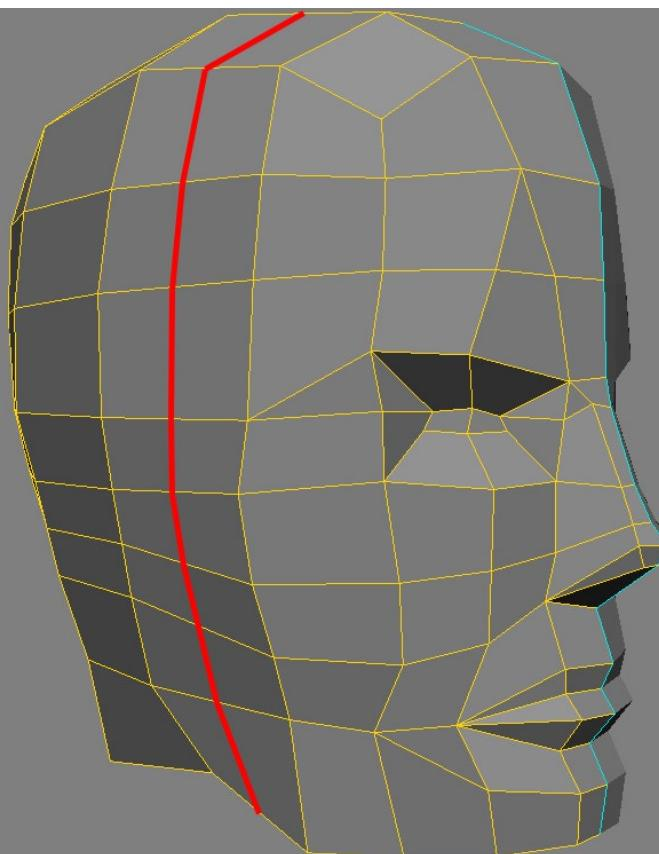

Fig 15
15. Now create a new cut (marked in red in Fig15) Select one edge of the edgering, and use the Shift + D shortcut to Subdivide the whole ring (activate the Parallel Edges option in the Subdivide Edge property page).
16. Add a new cut to improve the jaw-line, like shown in Fig15 (new edges marked in red). Also, notice that after this new cut we can delete the edge marked in green, thus keeping a quad poly instead of a tri. Select the diagonal edge (green edge in Fig15) and use the Dissolve Components tool to delete it.